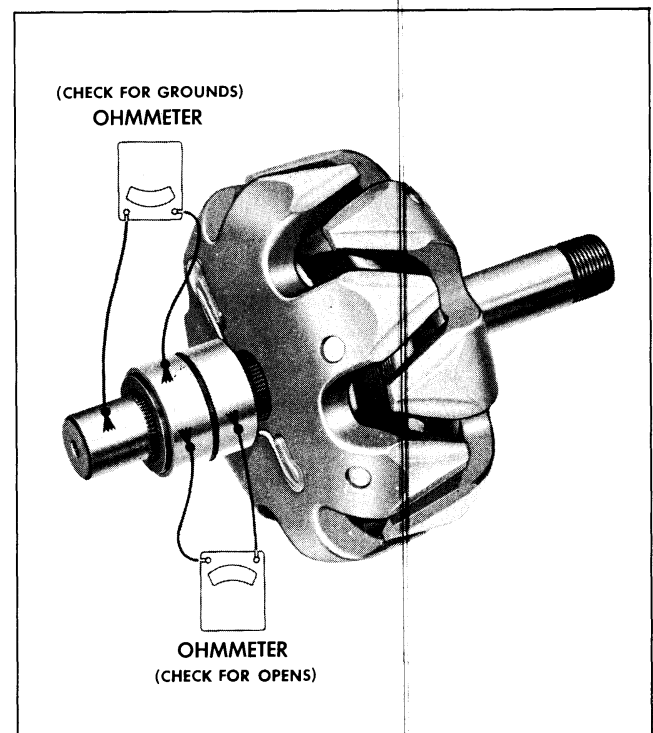

Fig. 11-16 Checking Rotor
1. To check for grounds, connect a 110 volt test lamp or an ohmmeter from either slip ring to the rotor shaft, or to the rotor poles (Fig. 11-16). If the lamp
2. To check for opens, connect the test lamp or ohmmeter to each slip ring. If the lamp fails to light, or if the ohmmeter reading is high (infinite), the winding is open (Fig. 11-16).